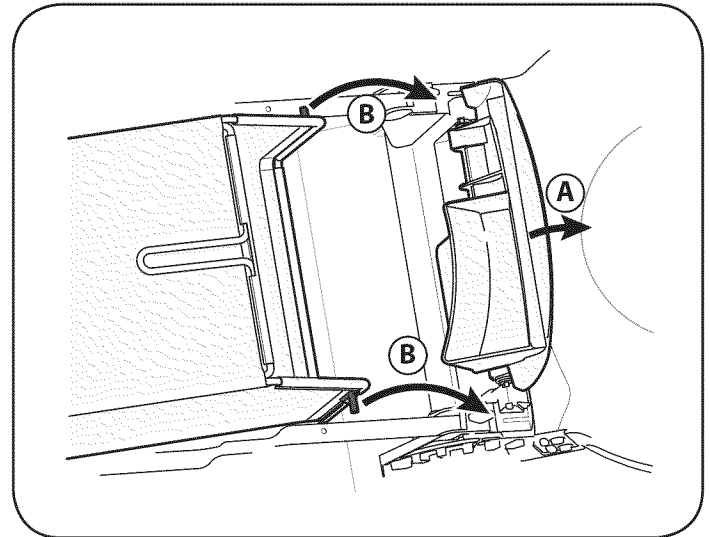

Figure 8
- B. Place grass catcher into the slots in the handle brackets as shown in Figure 8. Let go of discharge door so that it rests on the grass catcher.